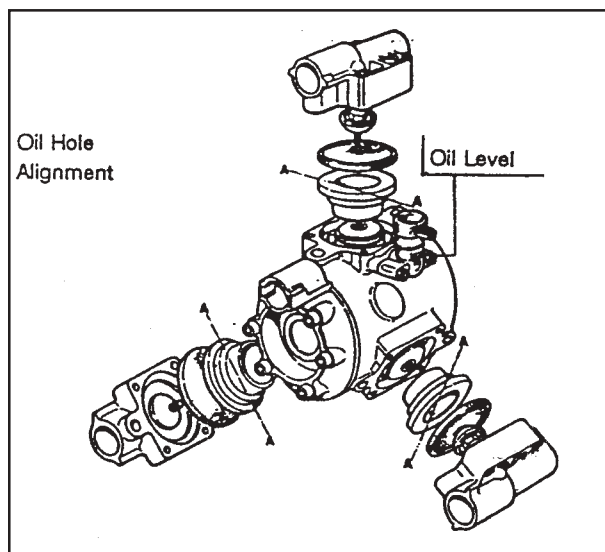

Figure 2-9
12. Repeat item 11.
**NOTE: If cylinder liners are removed, they must be replaced with oil holes aligned properly as shown in figure 2-9, Page 6**